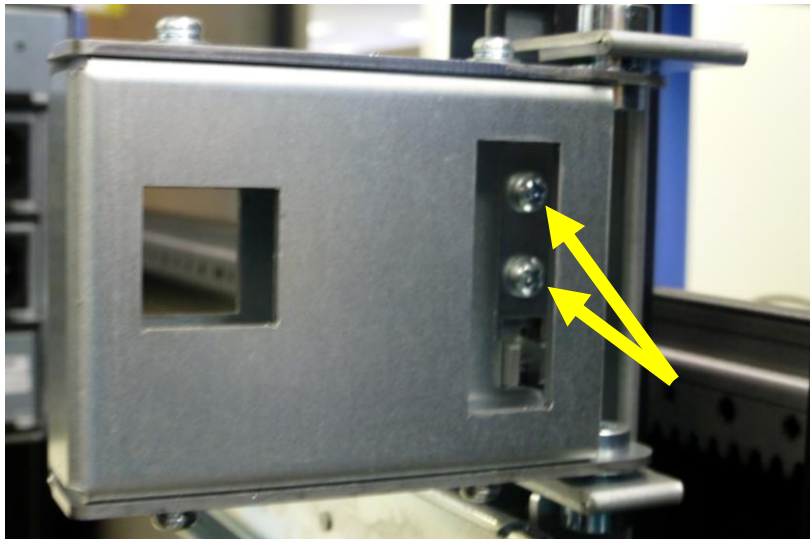

Figure 19. **Attaching CMA Mounting Bracket**
3. Tighten the two screws that are attached to the CMA mounting bracket (Figure 19).